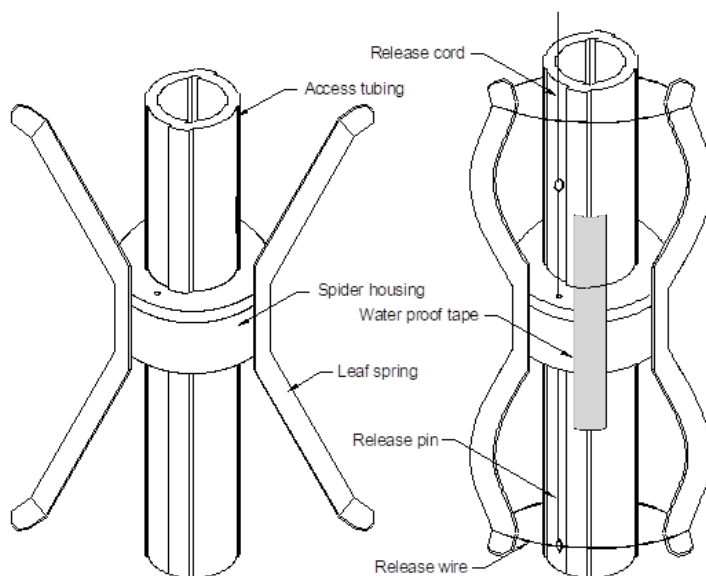

Figure 7-7 Datum magnet fixed on bottom most casing
1. Before lowering the bottom most casing, fix the datum magnet assembly (refer to figure 7-7) firmly to the access tubing with the screws provided, 0.5 m above the bottom cap.